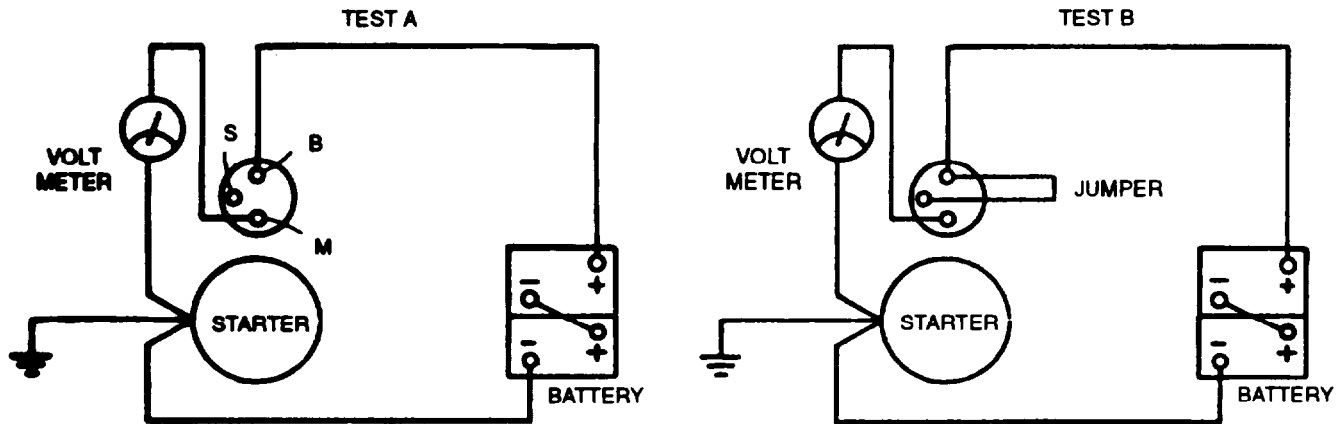

FIGURE 3-48. Starter Solenoid Test Circuit
- b. Set multimeter for volts DC and as shown in FIGURE 3-48, Test A. If voltage is indicated, solenoid is defective.
- c. Momentarily connect a jumper as shown in FIGURE 3-48, Test B. Multimeter should indicate battery voltage and starter should crank the engine. If multimeter does not read battery voltage, the solenoid is defective. If multimeter indicates battery voltage, but starter does not operate, starter is defective.
- (1) Check for continuity between solenoid terminals M and B with a multimeter. Refer to FIGURE 3-48.
- (2) No continuity should be indicated when solenoid plunger is in normal (out) position.
- (3) Push solenoid plunger in and note multimeter. Multimeter should indicate continuity. If no continuity is indicated, solenoid must be replaced.